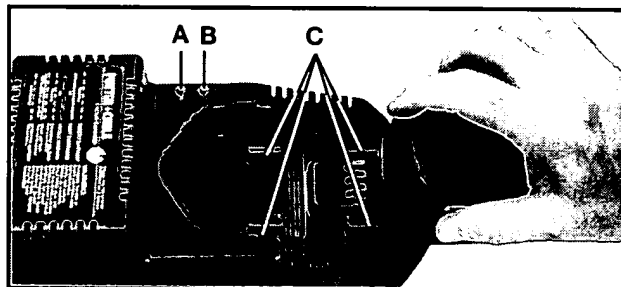
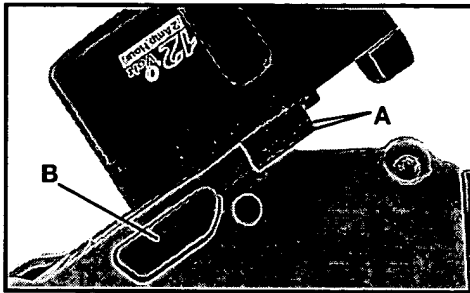

Fig. 23
Fig. 24
Make sure power circuit voltage is the same as that shown on the charger specification plate. Connect charger to power source. The green light (A) Fig. 23, should begin to flash. This indicates the charger is ready to begin charging.
Position battery pack on charger, align rails (A) Fig. 24 on battery pack with four tabs (C) Fig. 23 on charger. Slide battery forward onto charger until it stops.
The green light (A) Fig. 23, should begin to glow continuously, indicating that the battery pack is receiving a "Fast Charge" (if the green light does not glow continuously, or if the red light (B) Fig. 23, also begins to flash: see DIAGNOSTICS). After approximately one hour, the "Fast Charge" indicator light should go out indicating that the battery pack is fully charged and that the charger is now in a "Trickle Charge" mode. The battery pack can be left on "Trickle Charge" until you are ready to use it.
The Porter-Cable Charger is equipped with a diagnostic system that automatically checks the battery pack each time a pack is inserted into the charger. If no problems are found, the charger will automatically switch to "Fast Charge" mode as described in NORMAL CHARGING. If a problem is found, it will be indicated by the charger indicator lights (see Fig. 23), as follows:
TO REMOVE BATTERY PACK: Depress the battery release button (B) Fig. 24, and pull battery pack out of tool. **NOTE:** As an added safety feature, depressing the battery release button opens the internal pressure relief valve.
TO INSTALL BATTERY PACK: Align rails (A) Fig. 24, on battery pack with slots on tool and push battery pack onto tool until it locks in place.